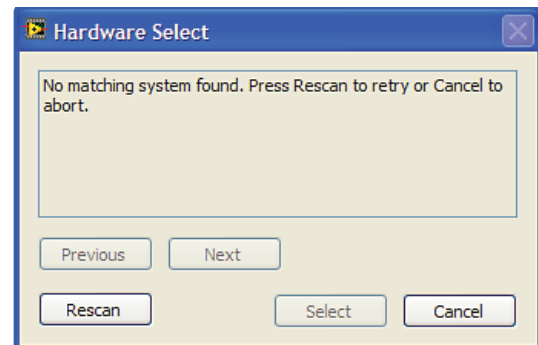

Figure 3. Connectivity Error Alert
2. If the evaluation system is not connected to the USB port when the software is launched, a connectivity error displays (see Figure 3). Connect the evaluation board to the USB port of the PC, wait a few seconds, click **Rescan**, and follow the instructions.